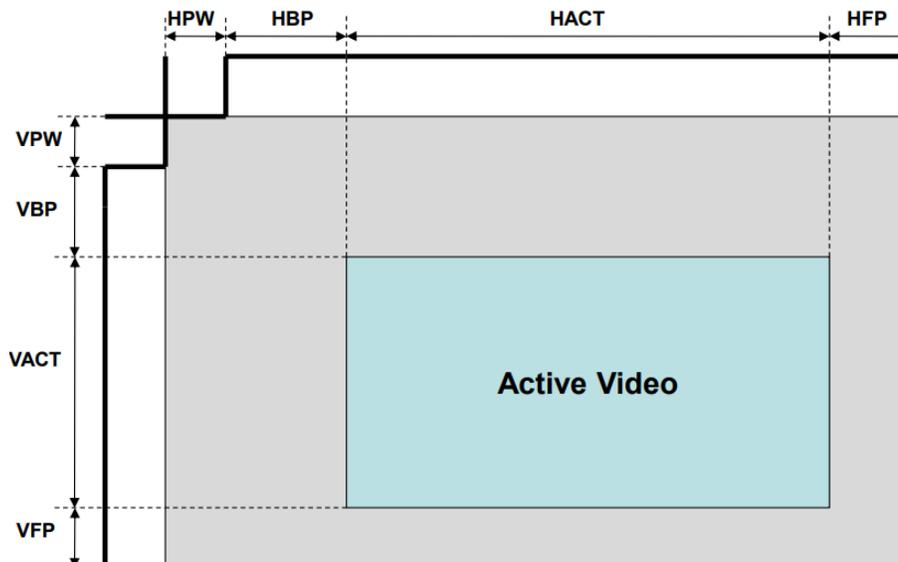

Figure 1. Video Format Parameters
- **%Blanking:** The blanking period, or the percentage of time when active video is not being displayed. As shown in Figure 1, it is represented horizontally as horizontal pulse width (HPW), horizontal back porch (HBP) and horizontal front porch (HFP). It is also represented vertically as vertical pulse width (VPW), vertical back porch (VBP) and vertical front porch (VFP).